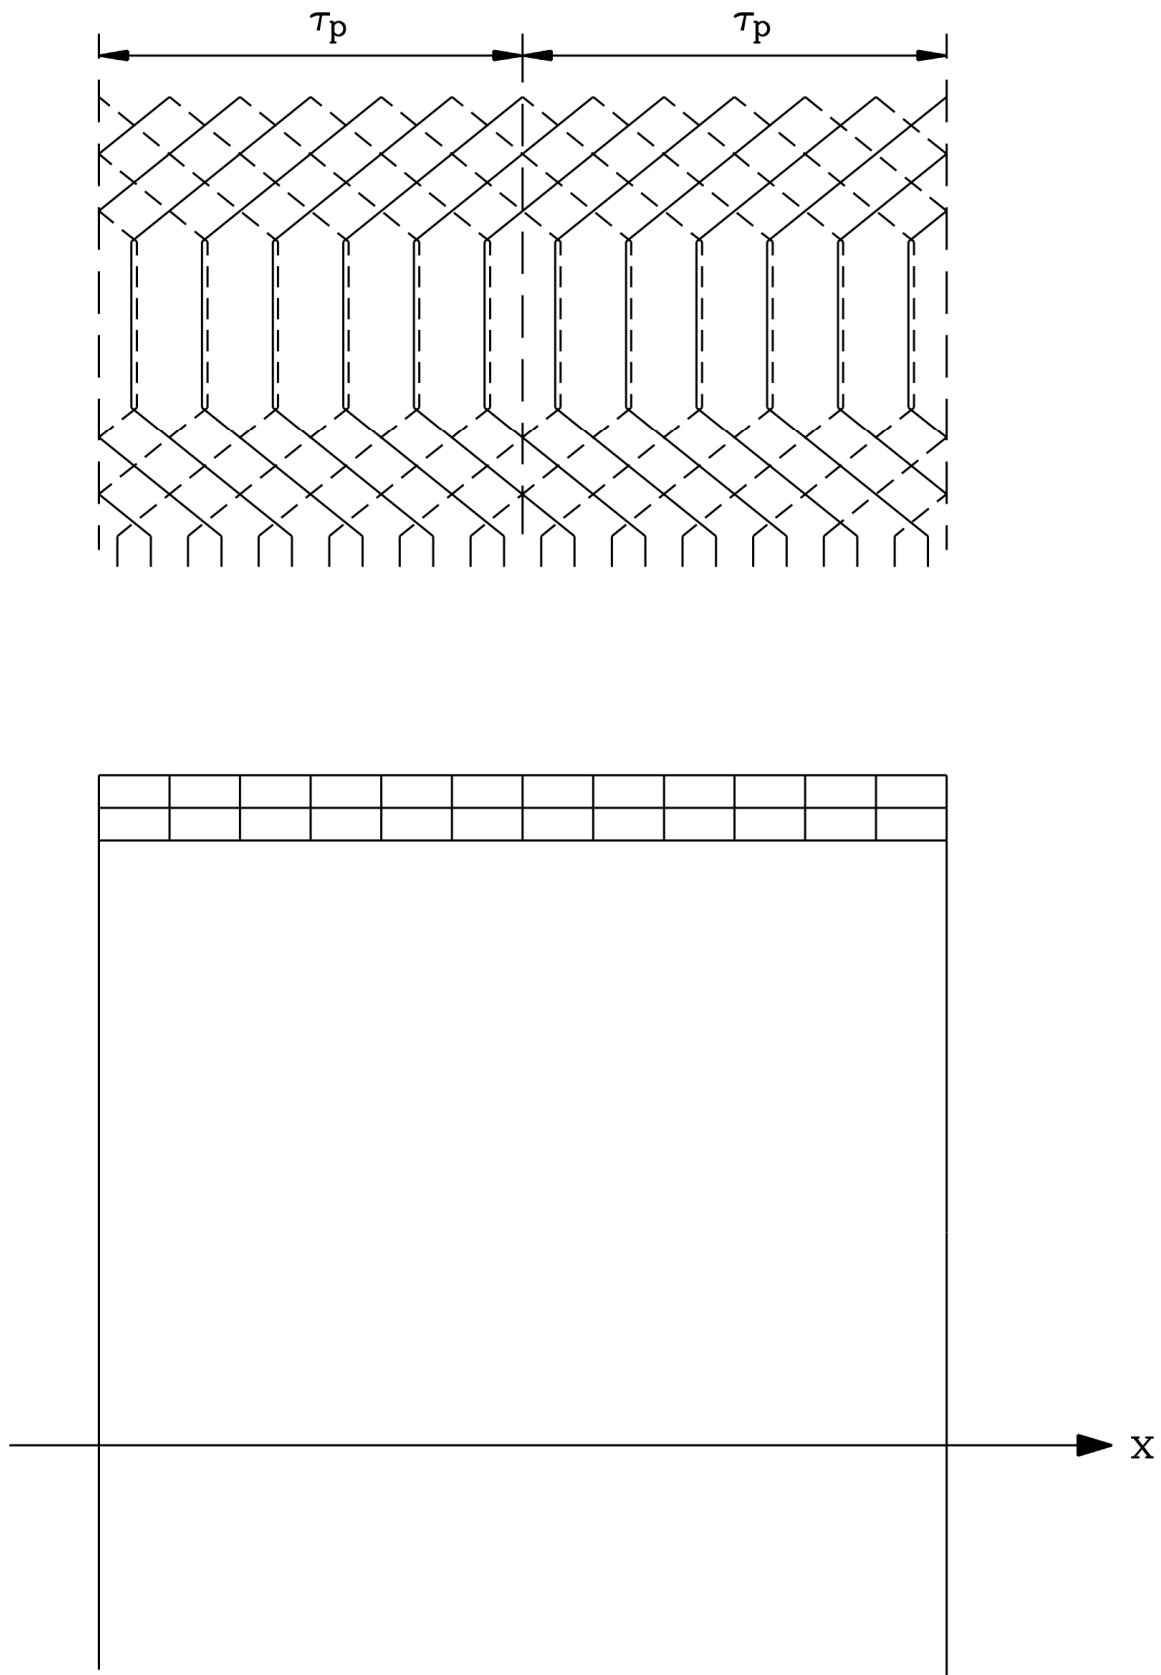

Fig. 1.3-1: Plan for a three-phase two-layer winding
Fig.1.3-1 shows the plan for a three-phase winding. It is the cut-out over two pole pitches.
- 5) Draw the m.m.f. curve corresponding to the current distribution into the diagram Fig. 1.3-1 below the phase band.